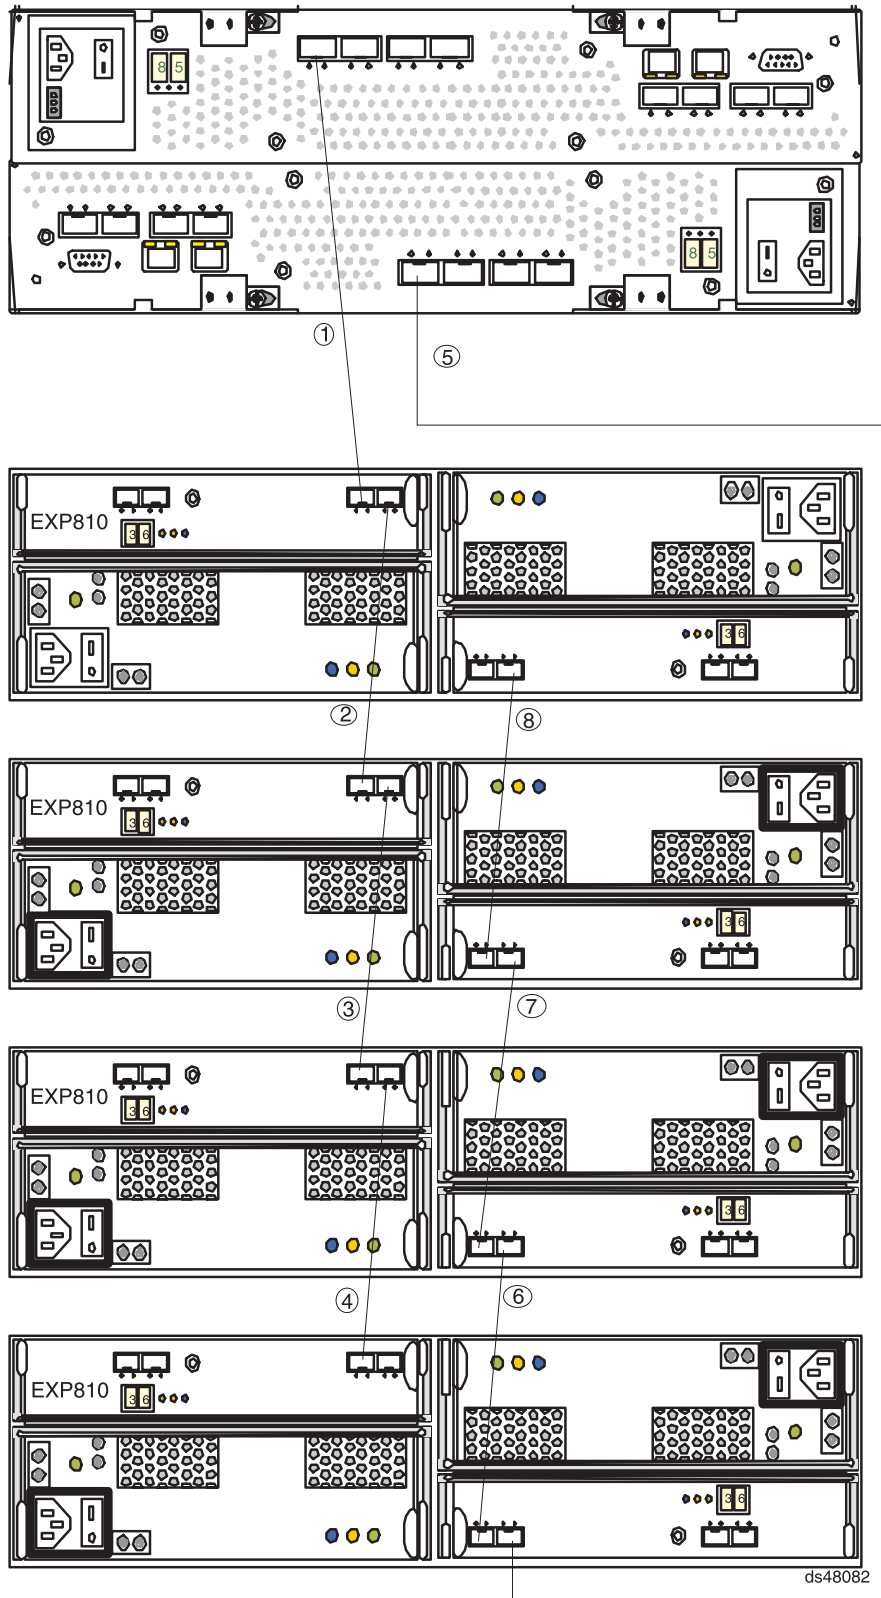

Figure 46. Connecting EXP810 enclosures to DS4800
- a. Start with the first storage expansion enclosure from the group of EXP810 drive expansion enclosures that will be cabled together. Connect the 1A port on the left ESM board to the 1B port on the left ESM board of the second (next) enclosure. (See callout 2 in Figure 46 on page 66.)
- b. On the first storage expansion enclosure from the group of drive expansion enclosures that will be cabled together, connect the 1B port on the right ESM board to the 1A port on the right ESM board of the second (next) enclosure. (See callout 8 in Figure 46 on page 66.)
- c. If you are cabling more storage expansion enclosures to this group, repeat steps 3a and 3b for all enclosures except the final enclosure in the loop, starting with the second enclosure. (See callouts 3 and 4 for the left ESM connections and callouts 7 and 6 for the right ESM connections in Figure 46 on page 66.)
- d. Connect drive port 4 (drive channel 1) of controller A to the to the 1B port on the left ESM board of the first storage expansion enclosure in the group of drive expansion enclosures. (See callout 1 in Figure 46.)
- e. Connect drive port 1 (drive channel 3) of controller B to the port 1B on the right ESM board of the last storage expansion enclosure in the group of drive expansion enclosures. (See callout 5 in Figure 46 on page 66.)